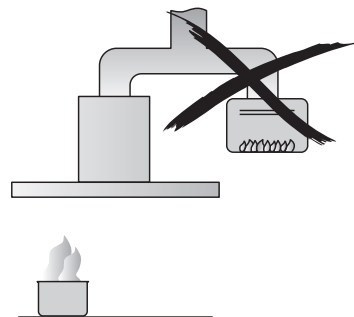

Fig. 1
-  The air must not be discharged into a flue that is used for exhausting fumes from appliances burning gas or other fuels.(Fig. 1)